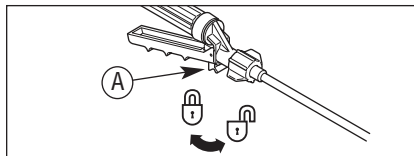

Figure 8. Apply and Release Shut-off Lock
3. For continuous spraying, squeeze the shut-off handle and rotate the lock (A, Figure 8) towards you. To unlock, rotate the lock towards the nozzle.